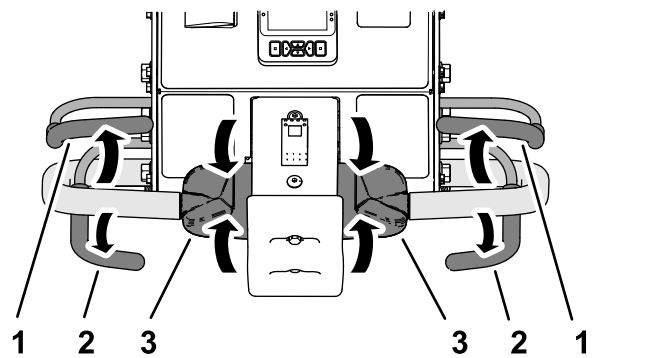

Figure 79
1. If you are aerating, release the aerate bail (Figure 79) to raise the coring head; refer to Raising the Coring Head (page 45).